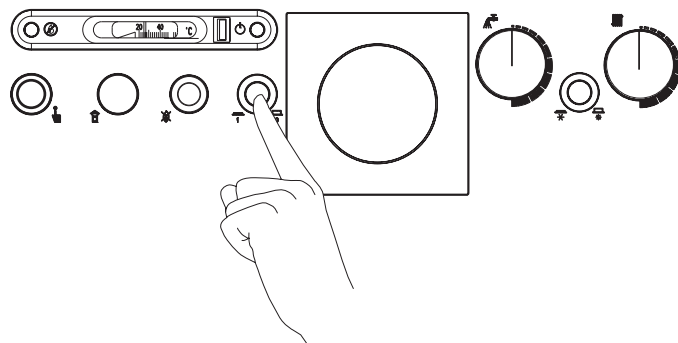

Fig. 7
3.2.1 Lighting the boiler (fig. 7)
3.2.5 Turn OFF boiler (fig. 7)